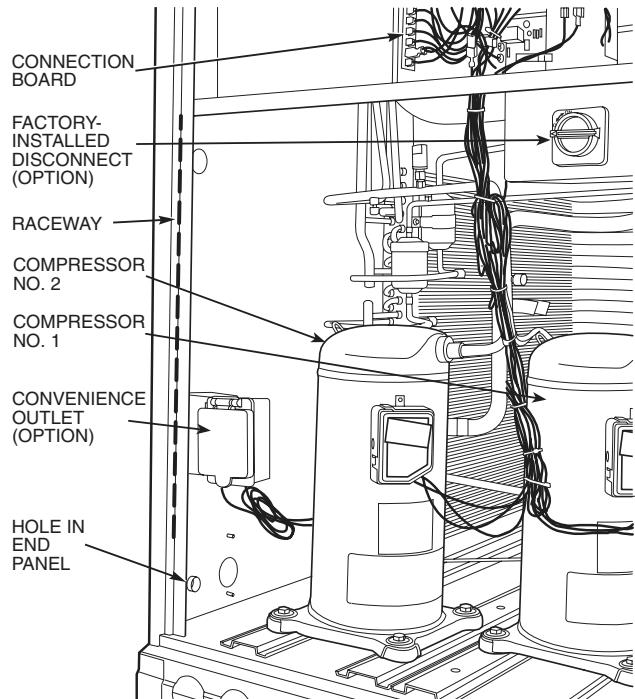

Fig. 10 — Field Control Wiring Raceway
2. Feed wires through the raceway built into the corner post to the 24-v barrier located on the left side of the control box. See Fig. 10. The raceway provides the UL-required clearance between high-voltage and low-voltage wiring.
2. Feed the wires through the raceway built into the corner post to the 24-v barrier located on the left side of the control box. See Fig. 10. The raceway provides the UL-required clearance between high and low voltage wiring.